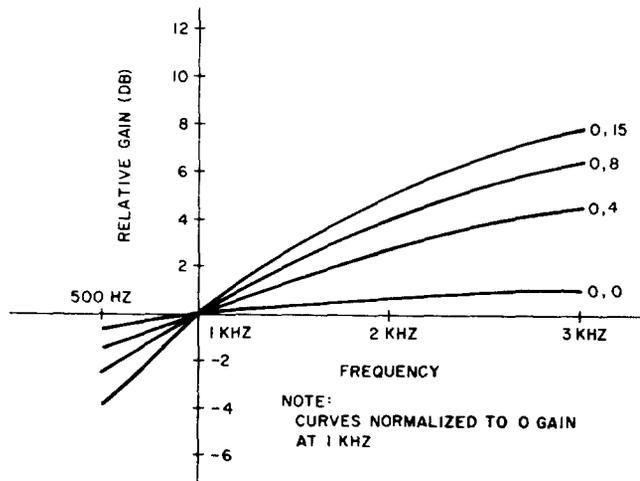
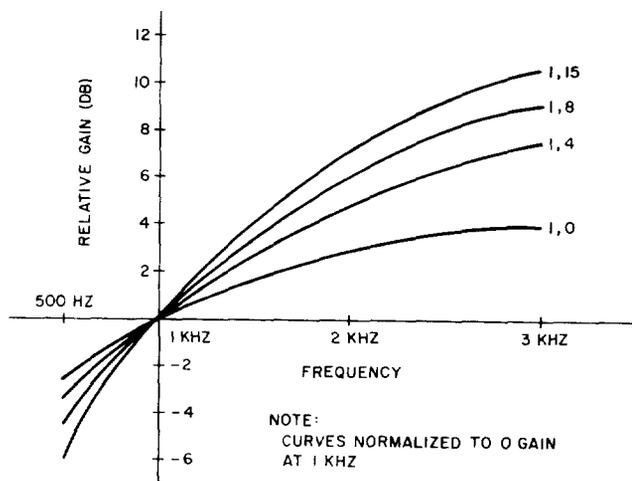

Fig. 9—Amplifier/Equalizer Frequency Response-C Switch=0 (off)
Fig. 10—Amplifier/Equalizer Frequency Response-C Switch=1 (Operated)
4.02 Figures 9 and 10 give the frequency response of the gain and equalizer circuits. Figure 9 provides the response curves for various equalizer settings with the C switch set for 0 (off). Figure 10 provides curves for the same equalizer settings with the C switch set for 1 (operated).